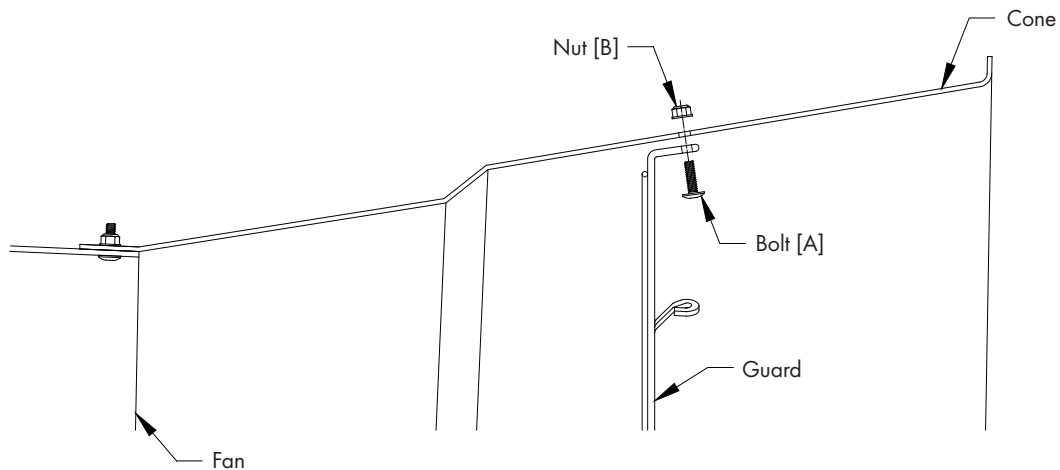

Figure 4
Insert Guard into Cone with the Guard Eyelets facing you (out). Make sure each Eyelet lines up with a hole in the cone sections and fasten in place with (6) Bolts [A] and Nuts [B] for the 36" Cone and (12) Bolts [A] and Nuts [B] for the 48" Cone. DO NOT tighten bolts at this time. See Figure 4.